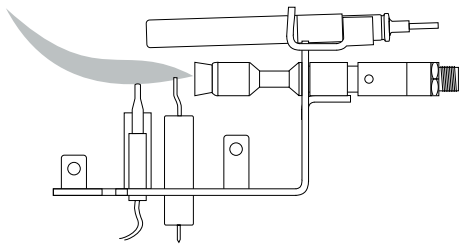

Figure 12. Pilot Burner
2. Adjust pilot screw to provide properly sized flame as shown in figure 12).